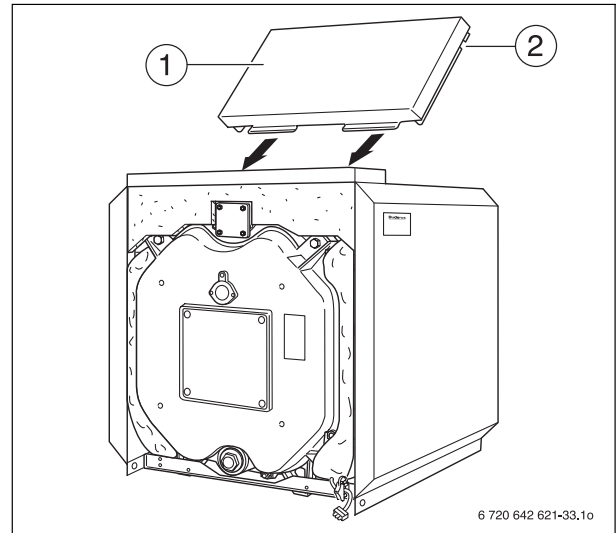

Fig. 39 Fitting the rear cover
- ▶ Place rear cover (Fig. 39, [1]) between the side panels so the cut-out (Fig. 39, [2]) fits over the tie bar.